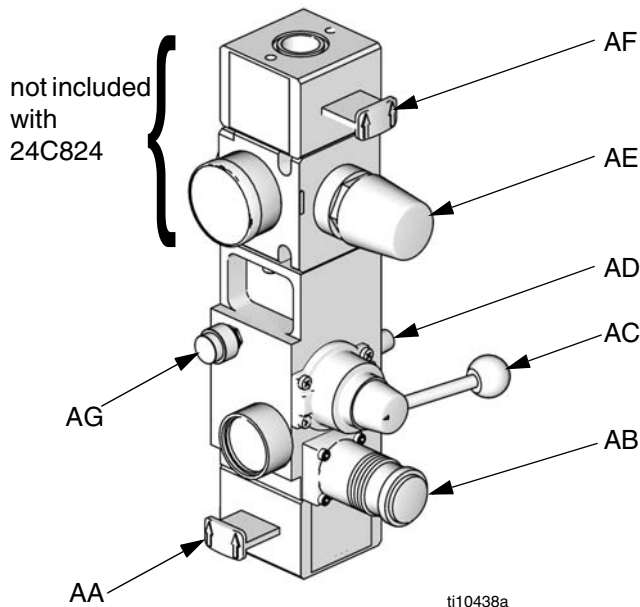

FIG. 2. Integrated Air Controls
- C Integrated Air Controls (see FIG. 2)
2. **For D200 Air Controls:** See FIG. 2, page 7.
- a. Close the air motor slider valve (AF) and the main air slider valve (AA).
- b. Set the ram director valve (AC) to DOWN. The ram will slowly drop.
6. Open the fluid line drain valve and the pump bleeder valve (P). Have a container ready to catch the drainage.
7. Leave the pump bleeder valve (P) open until ready to spray again.